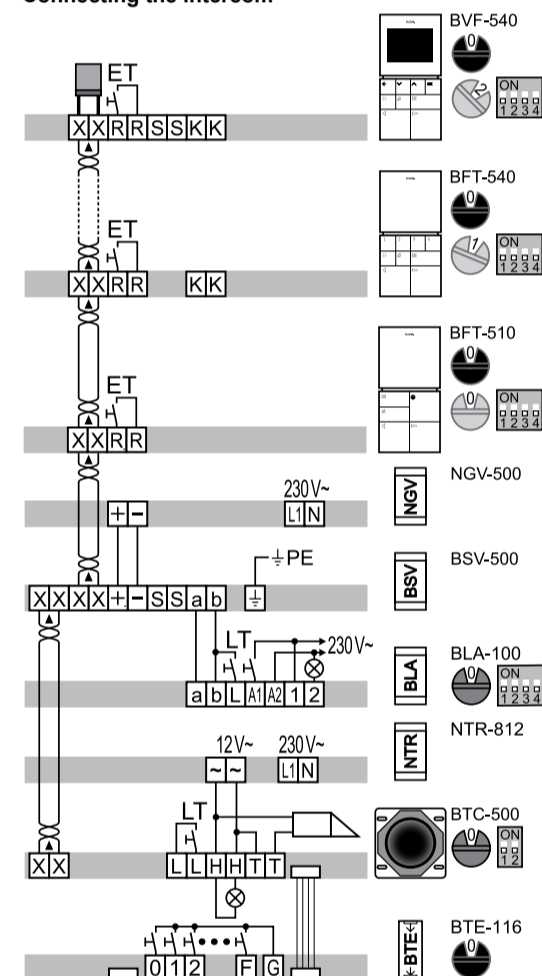

Figure 4: Series wiring
- Connect the intercom according to the connection diagram (Figure 4).
In a pass-through structure, the bus cable X/X is looped from one intercom to another intercom (Figure 4 and 5).